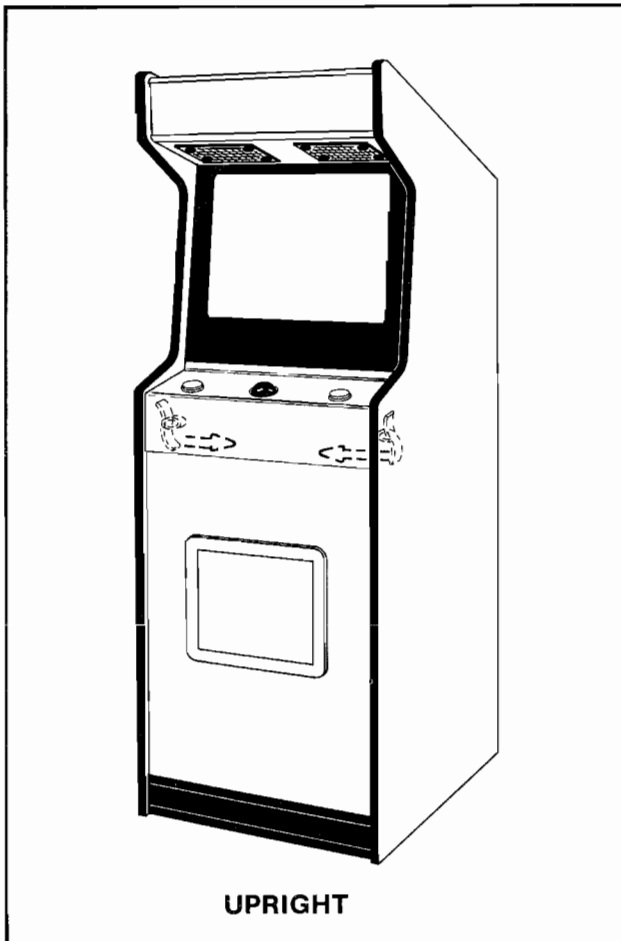

Figure 12 Removing control panel - Upright game
1. UPRIGHT MODEL: SEE FIGURE 12.